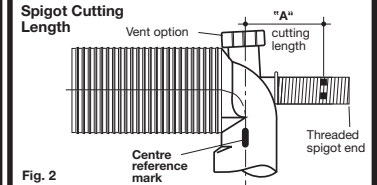

Fig. 2
- 3- Determine and mark the cutting length of the threaded spigot by measuring out the set-out dimension "A" from the centre reference mark on the connector. Cut threaded spigot to size, as detailed in **Fig. 2**.